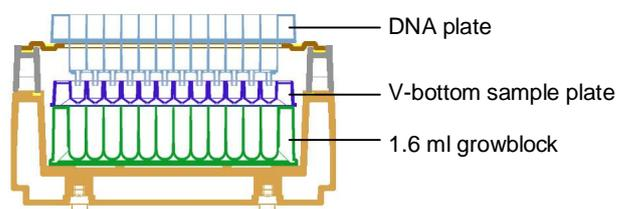

Figure2: Elution of plasmid using vaccum manifold
13. Remove the manifold top and place a 1.6 ml growblock into the manifold base. Place a V-bottom sample plate onto the 1.6 ml growblock. Reposition the manifold top and place the DNA plate on the manifold (Please refer to Figure 2).